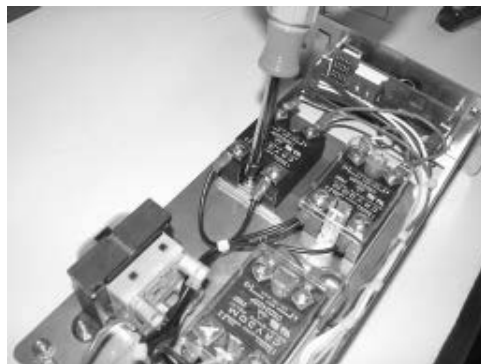

Figure 3
8. Using a 5/16" socket or wrench, remove the 2 nuts securing the relay and pull relay from panel. Figure 3.